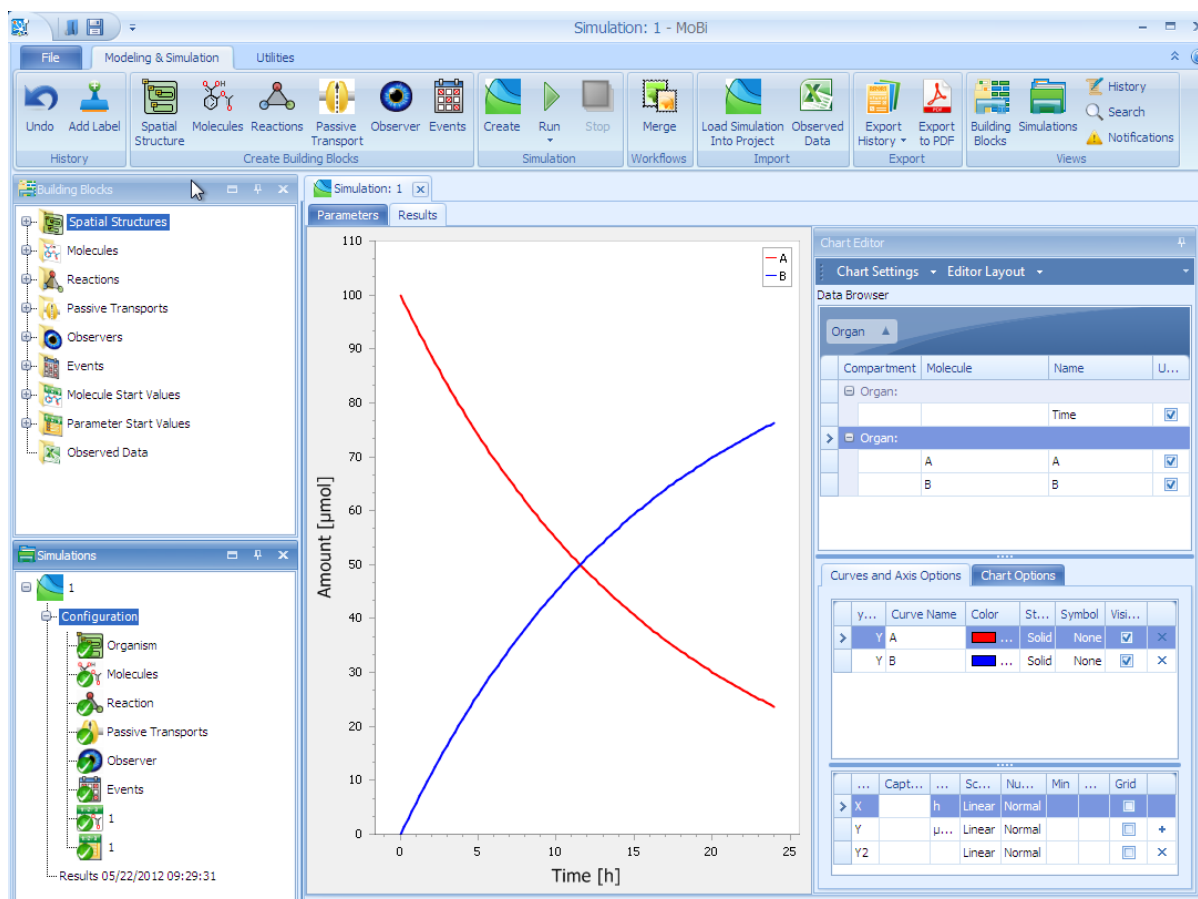

Figure 23.8. Simulation Result Window
2. Repeat the previous step for molecule "B". Two curves should be visible, like on the screen shot in Figure 23.8.